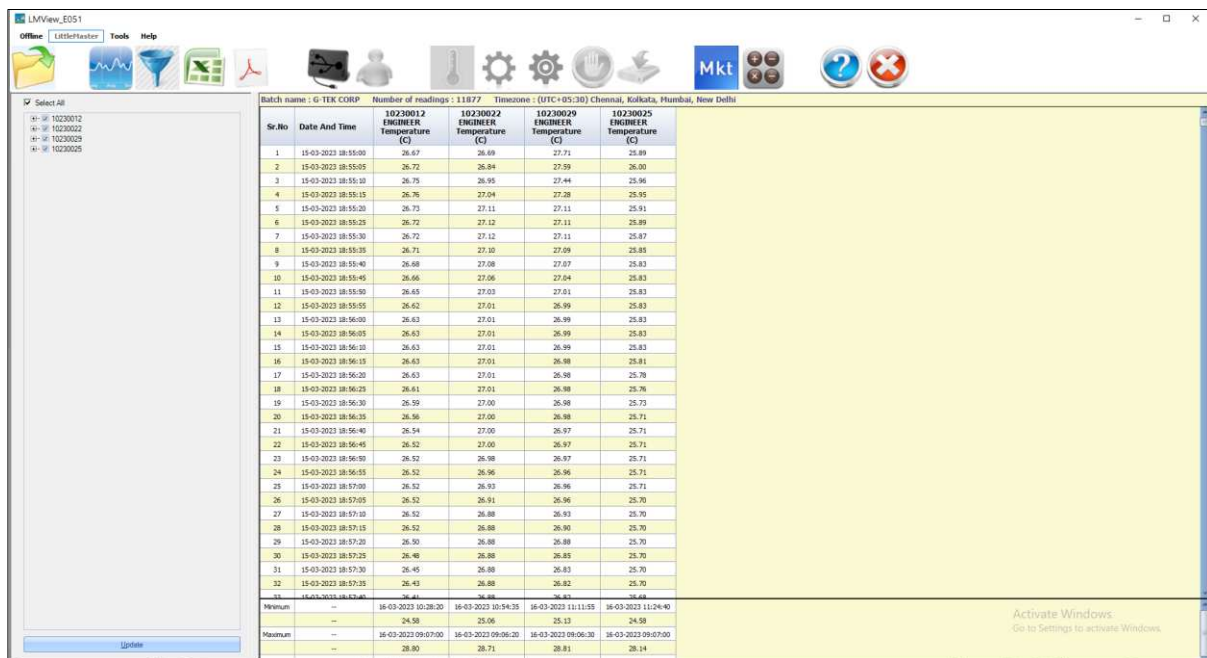

Figure 16 Multiple device data in One file
- Multiple device data are stored in one file as shown in figure 16.